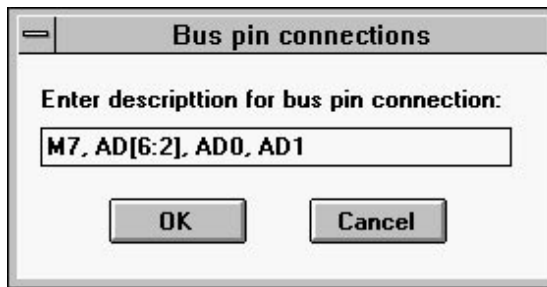
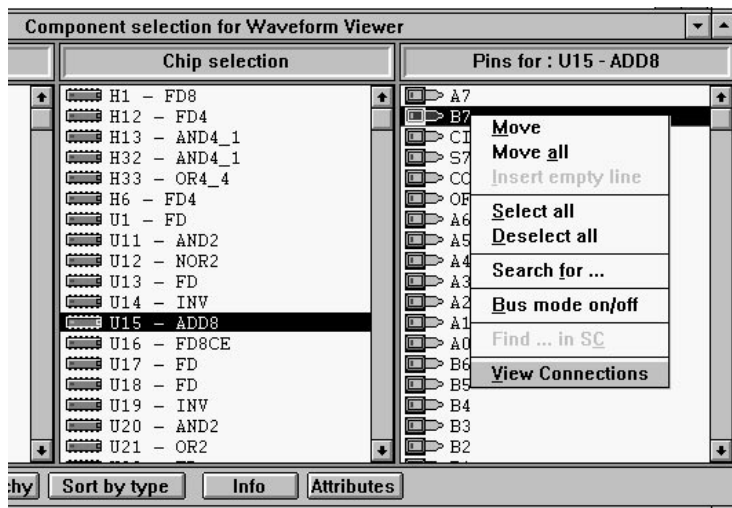
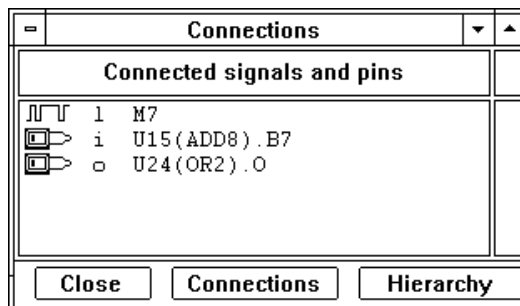

Figure 3-14. Editing Bus Pin Connections.
Figure 3-16. Selecting View Connections Option.
Figure 3-17. List Of Connections To The M7 Signal.
5. Activate the Select mode and double-click at the end of the bus line where it connects to the U15.B[7:0] pin. The window in Figure 3-14 lists all bus members that are connected to U15 through that bus pin.
6. To rearrange the order of signals connected to the U15 bus pin edit the signals listed in Figure 3-14. Since the M7 signal should be connected to B7, enter it first into the window as shown in Figure 3-14. Next, put the comma (,) and list the six signals that are connected in the proper order (AD[6:2]). Because the last two signals of that bus are swapped, you must list them explicitly (AD0 and AD1).
7. Click on the **OK** button to exit Figure 3-14. In response ACTIVE-CAD displays Figure 3-17 which lists the new bus members directly at the **U15-B** input pin.
6. Start the simulator and select the **Add Signals** option from the simulator **Signal** menu. The **Chip selection** window in Figure 3-16 will list all devices, cells and macros. Double click on U15. In response, ACTIVE-CAD displays explicitly all pins of U15 in the **Pins For** window.
7. Select the pin U15.B7 and press the right mouse button to invoke the local menu shown in Figure 3-16.
8. Select the **View Connections** option in Figure 3-16 and notice that the new window shows a direct connection between U15(ADD8).B7 and U24(OR2).O (Figure 3-17).